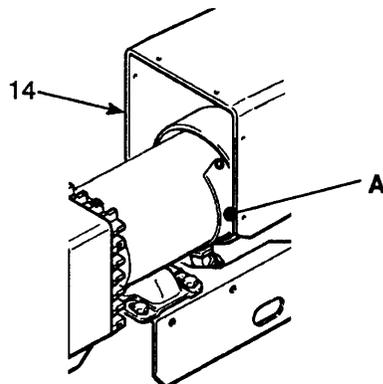

Fig 11
1. Remove the motor shield (14). Remove the inspection covers and gaskets (A). See Fig 11.